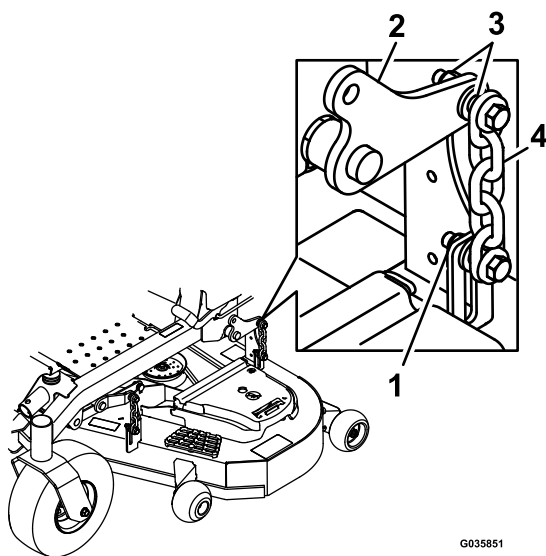

Figure 87
13. Loosen the locknuts (Figure 87) on all 4 corners and ensure that the mower deck is sitting securely on all 4 blocks.